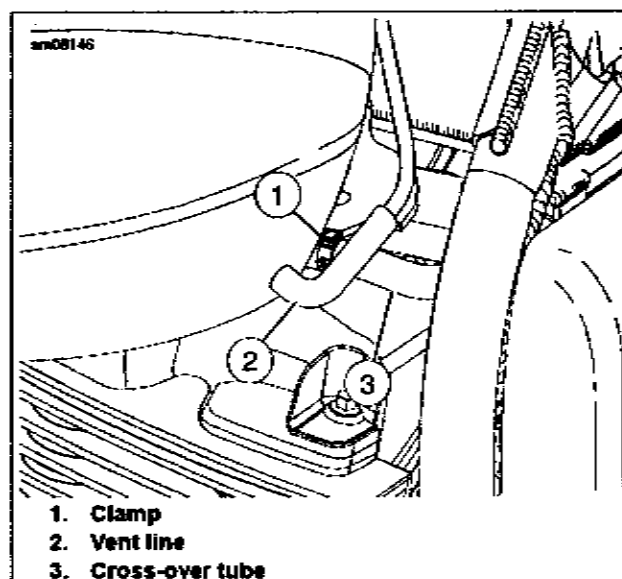
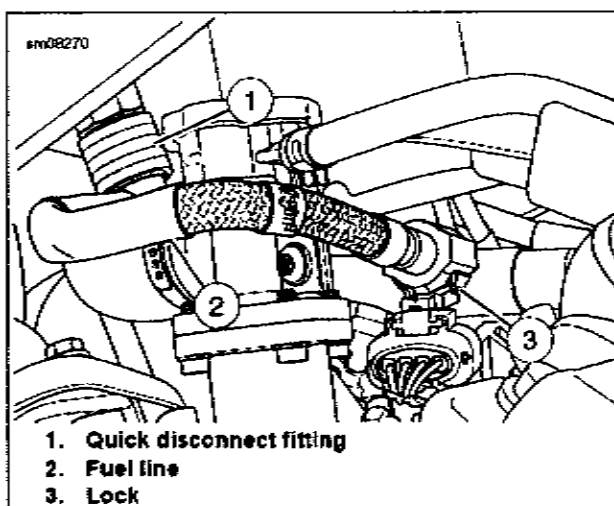
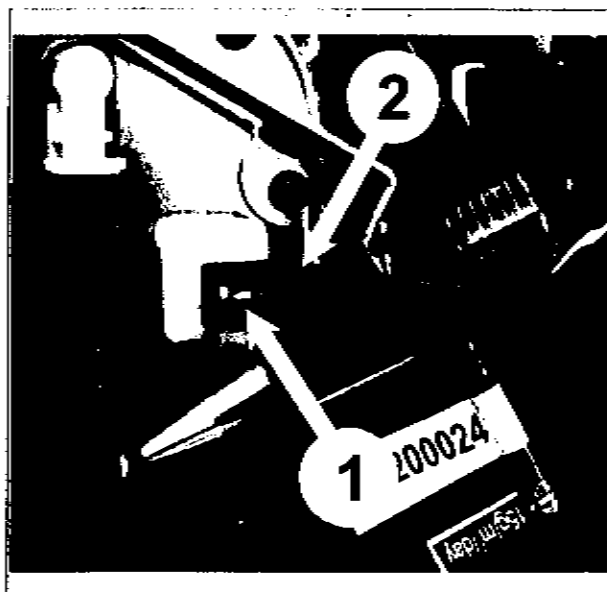

Figure 6-4. Cross-over Tube
Figure 6-7. Lower Fuel Line
Figure 6-8. Fuel Pump Assembly
- a. Remove nut (2).
- b. Remove fuel tank ground wire (3) from ground stud (1) and backbone caddy (4).
8. See Figure 6-7. Remove lower fuel line.
- a. Push up on sleeve of quick disconnect fitting (1).
- b. Remove fuel line (2) from quick disconnect fitting.
- a. Lift connector latch (1) See Figure 6-8.
- b. Pull connector (2) out
10. See Figure 6-4. Remove vent line (2) from fuel tank.
3. Connect fuel pump connector. See Figure 6-8.
4. See Figure 6-7. Install lower fuel line.
- a. Connect fuel line (2) to fuel rail.
- b. Engage lock (3) to secure fuel line to fuel rail.
- c. Press up on sleeve of quick disconnect fitting (1).
6. Install vent line (2) See Figure 6-4.